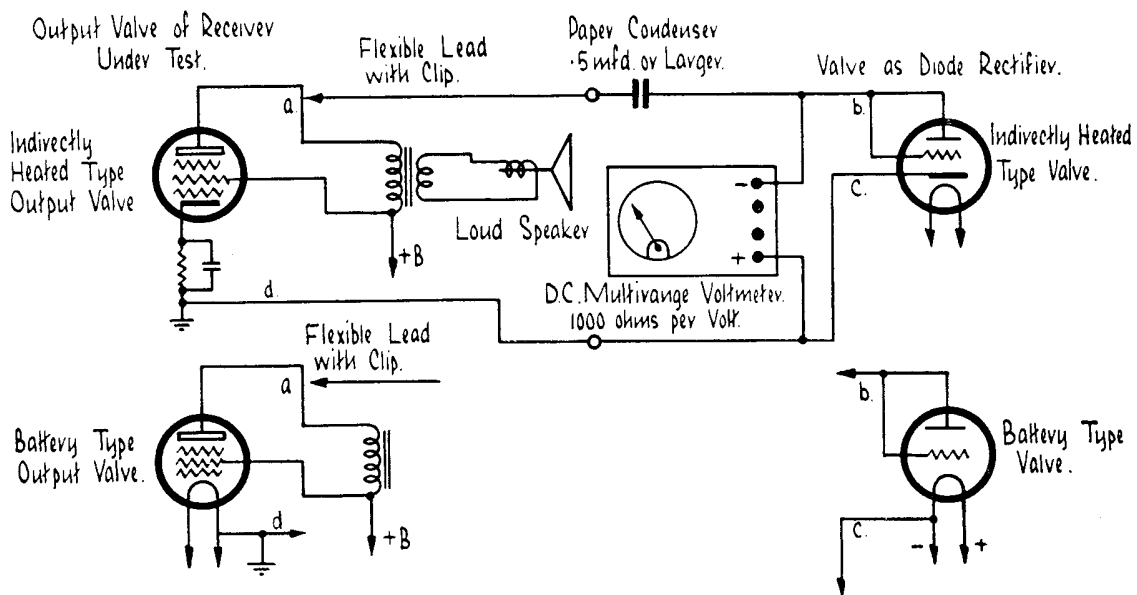

Fig. 4.—Output meter.
- (3) As an output meter—See Fig. 4.
3. Connect an output meter in the plate circuit of the output valve as shown in Fig. 4.